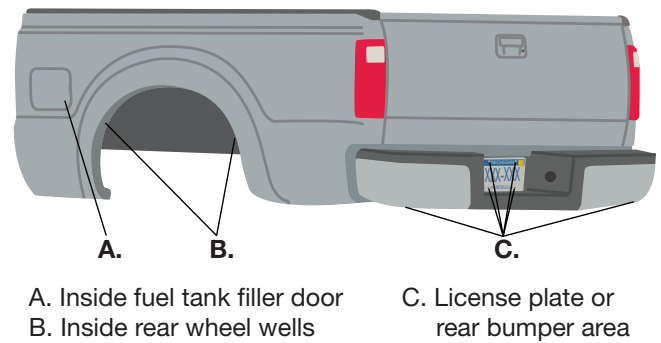

Fig. 23
1. Choose the locations for the Schrader valves and drill a 5/16" (8mm) hole, if necessary (Fig. 23).